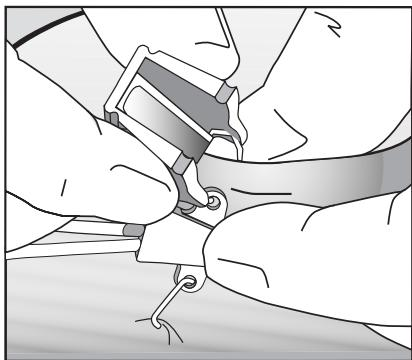

Figure 1
- Pass staple point through eye of catheter suture hub (refer to Figure 1).